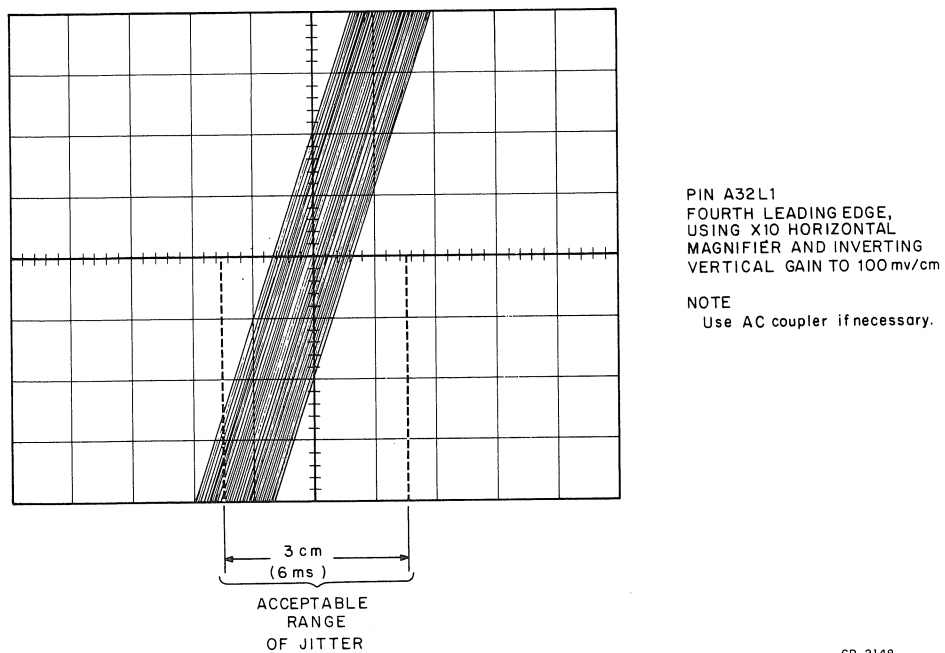

Figure 5-14 Capstan Jitter Waveform Magnified
6. Raise the vertical gain to 50 or 100 mV/cm, so that a trace similar to that shown in Figure 5-14 is obtained.